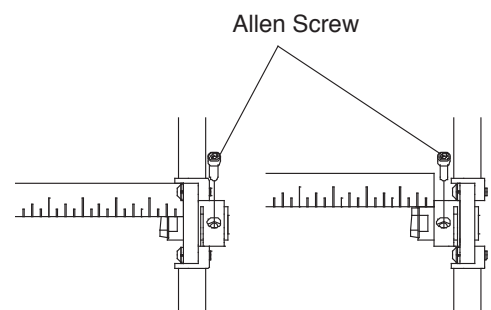

Figure 51
5. The amount of the camber plug that extends outside of the camber mount clamp affects the rear wheel spacing. The less of the camber plug that extends outside of the camber mount clamp, the narrower the rear wheel spacing. The more of the camber plug that extends outside of the camber mount clamp, the wider the rear wheel spacing. However, the distance from the camber mount clamp to the end of the camber plug should never exceed 1". Make sure that the distance from the outside edge of the camber clamp to the end of the camber plug is identical on both sides of the chair. **Note:** If your desired rear wheel width would require that more than 1" of the camber plug extends beyond the camber plug clamp, consider repositioning the camber mount clamp to the outside of the adjustable axle plate. See Figure 51.